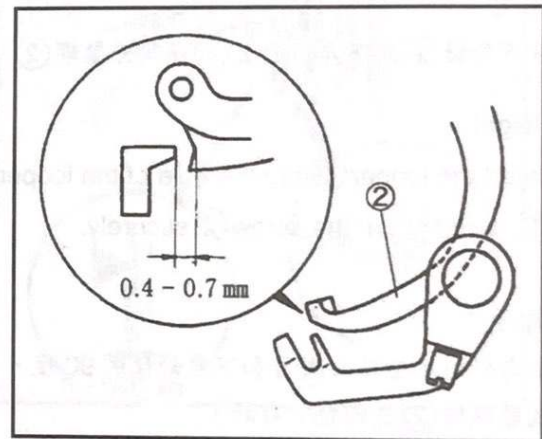

Fig.50
當大上勾針②和小上勾針①最接近時的間隙為 0.4-0.7mm。(Fig.50)
When the top cover thread hook ② comes most nearly to the top cover thread carrier ③, make the clearance between them to 0.4-0.7 mm during one rotation. (Fig.50)